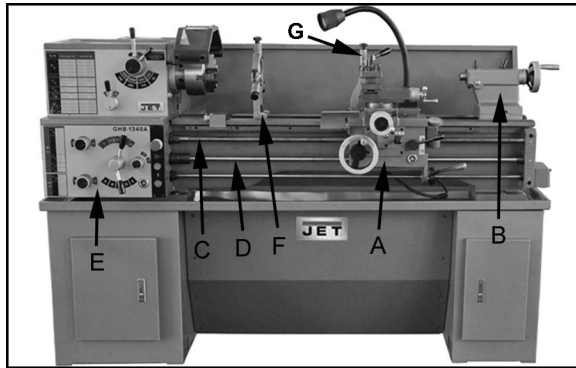

Figure 8-2
3. **Gear Shaft** – Remove set screw (F, Figure 8-2) and oil with a couple drops of Mobil DTE® Oil Heavy Medium once weekly.
The apron (A, Figure 8-2) is mounted to the carriage. In the apron a half nut is fitted. The half nut gibs can be adjusted from the outside. The half nut is engaged by use of a lever. Quick travel of the apron is accomplished by means of a bed-mounted rack and pinion, operated by a handwheel on front of apron.
The tailstock (B, Figure 8-2) slides on a v-way and can be locked at any location by a clamping lever. The tailstock has a heavy-duty spindle with a Morse Taper #3.
The leadscrew (C Figure 8-2) and feed rod (D, Figure 8-2) are mounted on the front of machine bed. They are connected to the gearbox at the left for automatic feed and lead. They are supported by bushings on both ends.
The gear box (E, Figure 8-2) is made from high quality cast iron and is mounted to left side of machine bed.
The steady rest (F, Figure 8-2) serves as a support for shafts on the free tailstock end. The steady rest is mounted on the bedway and secured from below with bolt, nut and locking plate.
The traveling follow rest (G, Figure 8-2) is mounted on the saddle and follows the movement of the turning tool. Only two fingers are required as the turning tool takes the place of the third. The follow rest is used for tuning operations on long, slender workpieces. It prevents flexing of the workpiece from the pressure of the cutting tool.